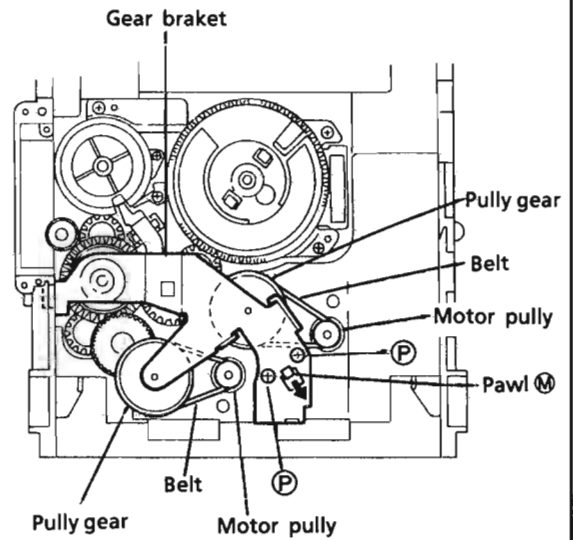

Fig. 37
1. Remove 2 screws (P) securing the gear bracket. (See Fig. 37.)
2. Press the pawl (M) securing the gear bracket to the arrow in the figure to remove the gear bracket. (See Fig. 37.)
4. Remove each belts from the both actuator motor pulleys and the pulley gears. (See Fig. 37.)